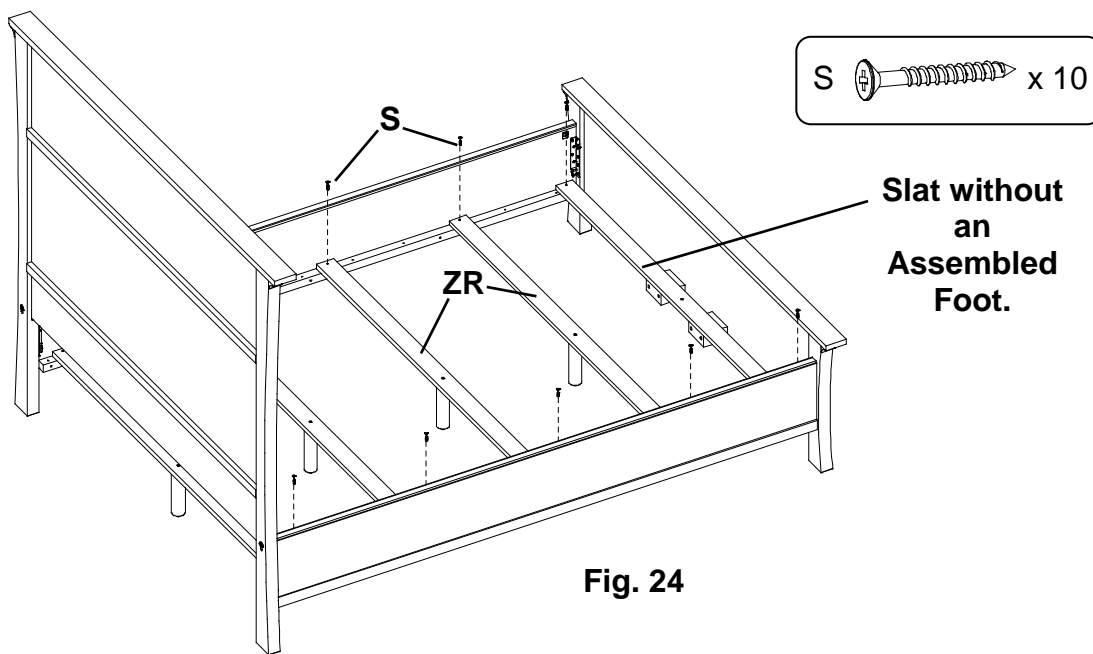

Fig. 24
24. Move the bed assembly to its final position. Position the Slats (ZR) on the bottom edges of the rails and place the slat without the Assembled Foot nearest to the Footboard. Attach with #8 x 1-1/4" Black Screws (S). See Figure 24.